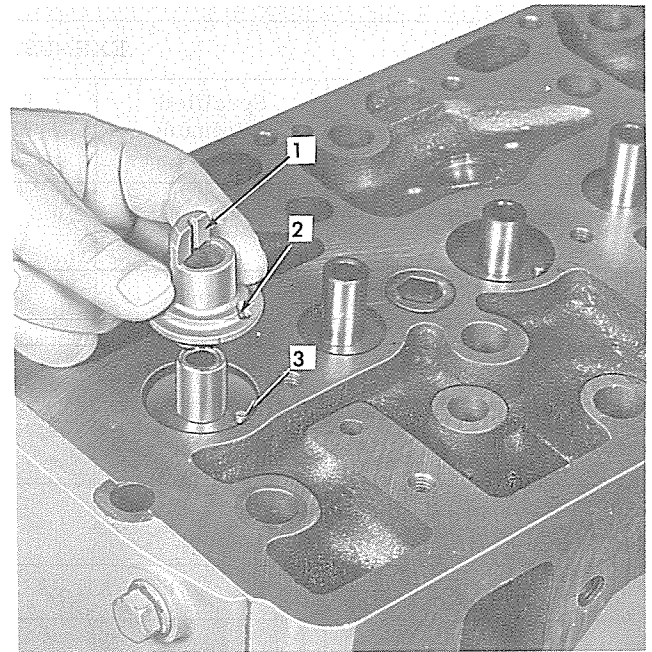

Fig. 14 — Removing Intake Valve Indexing Locator
(1) can be removed. Remove valve spring retainer locks and carefully release tension on valve spring(s). Remove valve spring retainer and valve spring(s).
3. After inner (11) and outer (12) intake valve springs have been removed, the intake valve indexing locator (10) can be removed as shown in Fig. 14.
5. To install each intake valve indexing locator, start locator in position over valve stem, hold upward on valve stem and index the locator with valve stem. Lower locator into position on cylinder head, aligning hole in locator with locator dowel pin, Fig. 14.